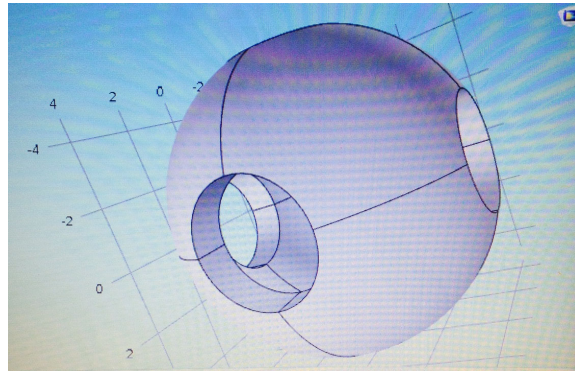

Figure 2: **A hollow sphere with holes.**
2. Make a hollow sphere with holes in it (Figure 2). Don't worry about dimensions, just the general concept.
In Figure 2, the hot wake behind the heat sink visible in the plot is a sign of the convective cooling effects. The maximum temperature, reached at the heat sink base, is about 380 K.
Figure 2: The surface plot shows the temperature field on the channel walls and the heat sink surface, while the arrow plot shows the flow velocity field around the heat sink.